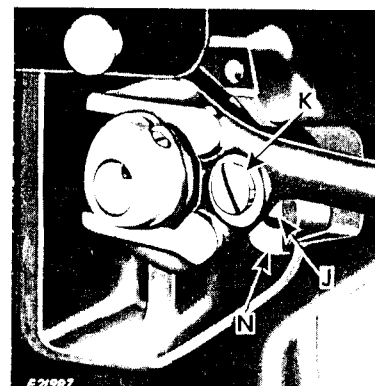
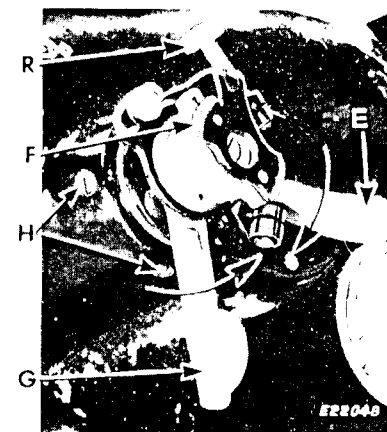
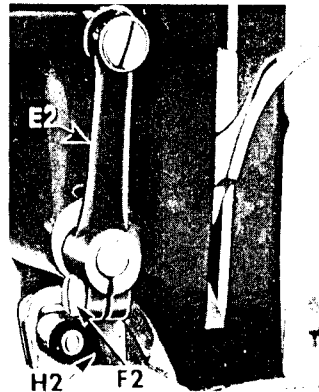

Fig. 46. Vibrator Fork Connection and Regulating Slide Block
Fig. 47. Adjusting Zero Bight
Fig. 49. Vibrating Needle Lever
Make sure that slide block J slips into slideway N, Fig. 46. Tighten stud K, Fig. 46. Then securely tighten set screws H, Fig. 47.
When the machine is set at zero bight, with bight control lever E, Fig. 47 at lowest point,
To adjust position of bight control mechanism at zero bight (removing all vibration of the needle during straight sewing), loosen set screws H, Fig. 47 and turn entire mechanism clockwise or counterclockwise as required.
**NOTE:** The exact position of the needle relative to the needle hole in the throat plate, at this stage is, of no importance, since the bight control operation must be correctly adjusted before any other adjustment of the needle location can be made. However, if the needle should strike the throat plate during these tests, either the adjuster is rotating the slide-way **N**, Fig. 46, in the wrong direction, or the small vibrating needle lever **E2** and needle bar holder **H2**, Fig. 49, are in need of adjustment. Loosen clamping screw **F2**, Fig. 49 and move holder **H2**, toward right or left as required. Then securely tighten screw **F2**.